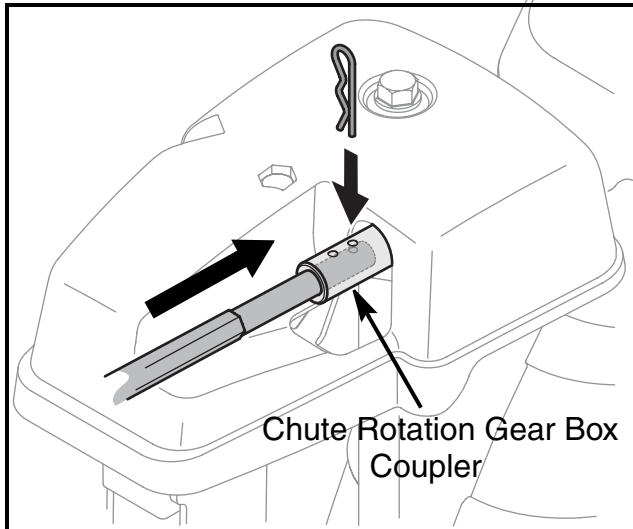

FIGURE 23
37. Push the hex rod toward the control panel until the hole in the hex rod lines up with the hole in the chute rotation gear box coupler closest to the chute rotation gear box and insert the cotter pin. See Figure 23.